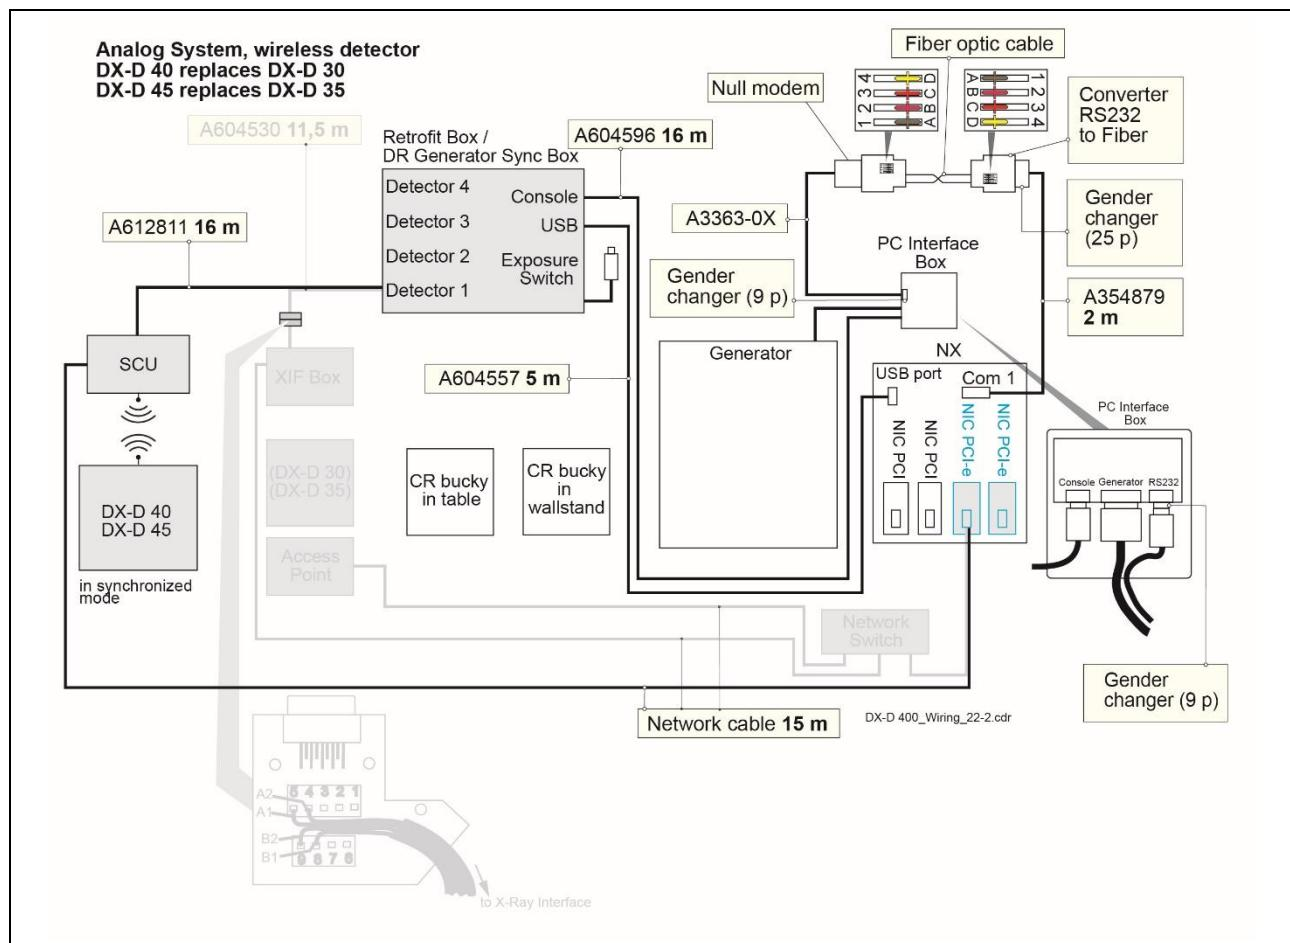

Figure 12: Analog system – DX-D 40/45 detector replaces DX-D 30/35
- (1) It is recommended to uninstall the software for DX-D 30/35 and remove the hardware (for example Network Switch, Access Point, X-Ray Interface Box and the respective cables).
- (2) Install the DX-D 40/45 detectors in synchronized mode.
- o For the wiring diagram analog systems refer to Figure 12